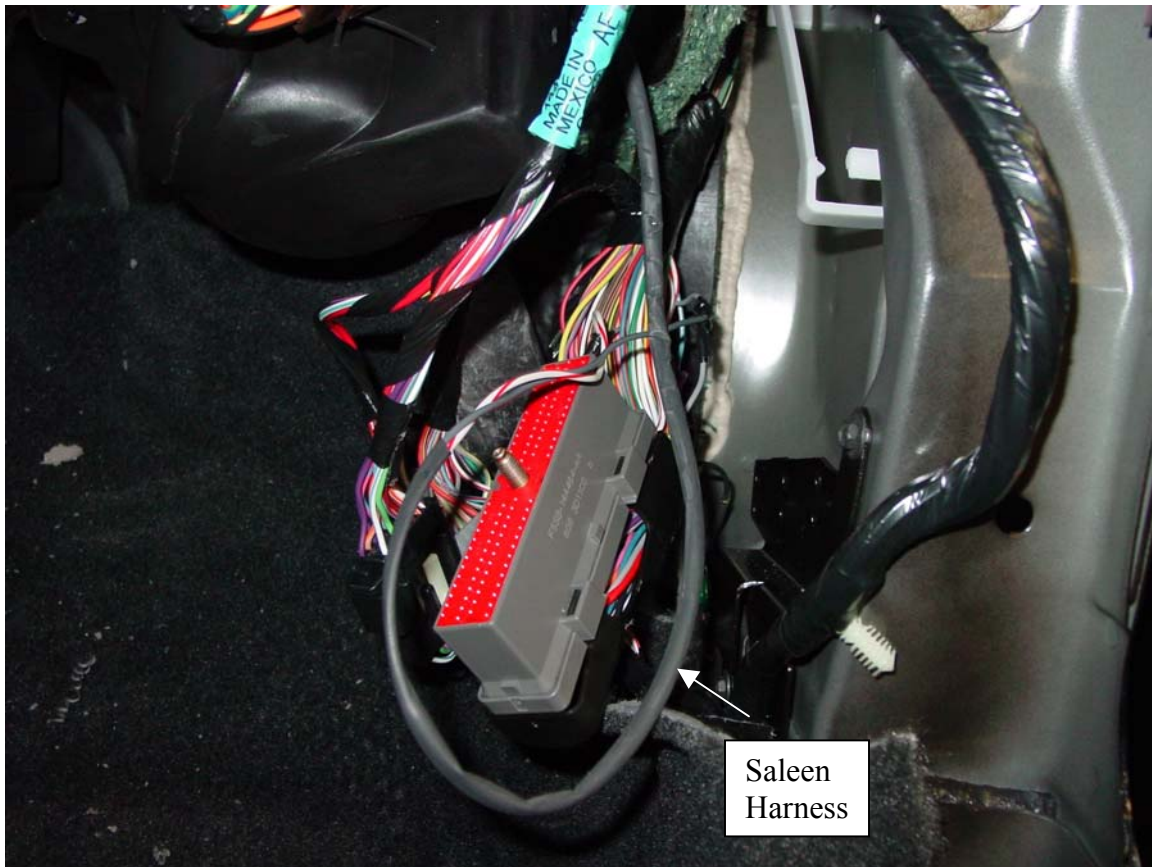

FIGURE 3.
- 6) See Figure 3 for reference.